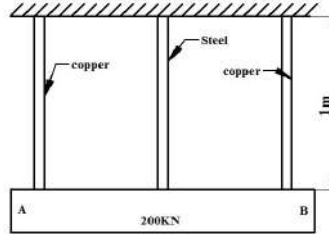

Figure 6
32. A horizontal rigid bar AB weighing 200kN is hung by three vertical rods, each of 1m length and 500mm² cross section as shown in **Figure 6**. the central rod is of steel and outer rods are copper. If the temperature rise is 40 °C, estimate the load carried by each rod and by how much the load will descend. Take $E_s=200\text{GN/m}^2$, $E_c=100\text{GN/m}^2$, $\alpha_s=1.2 \times 10^{-5}/^\circ\text{C}$, $\alpha_c=1.8 \times 10^{-5}/^\circ\text{C}$.